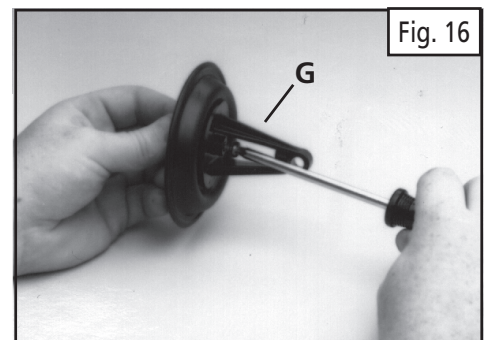
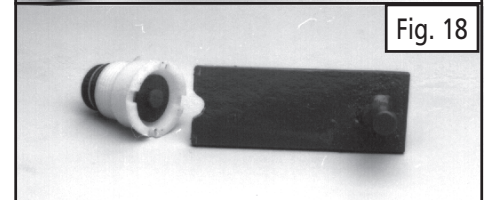
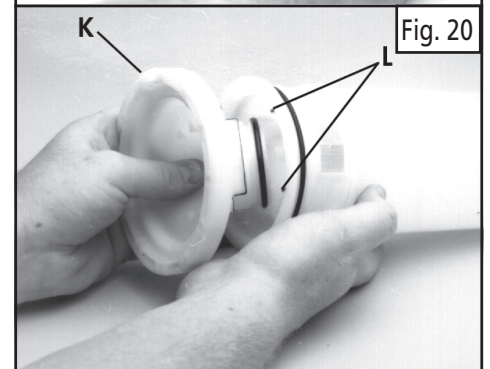

Fig. 16
Fig. 18
Fig. 20
- 5) To replace the diaphragm, remove the connecting rod (G) from the backing plate by removing the retaining screw. Replace the diaphragm and reassemble. (See Figure 16)
- 6) The valve assembly (H) is removed using a locally produced special tool (See drawing for measurements). The valve unscrews counter-clockwise.
- 7) Once the valve assembly is removed, the valve plates and o-rings can be replaced. (See Figure 18).
- 8) The pump housing (L) is separated from the pressure cylinder (J) by pulling it off. The o-ring can then be replaced.
- 9) When reassembling the pump housing to the pressure cylinder, be sure the square tab on the pump housing (K) is aligned in the notch - (see arrows (L)) on the pump cylinder. (See Figure 20). Be careful not to pinch or nick the o-ring.
- 10) Screw the valve assembly into the cylinder. Be sure that the two (2) square holes the threaded portion of the valve assembly are aligned with the holes in the pressure cylinder. Look through the inlet screen to check alignment.
- 11) Re-install the diaphragm and the flange with the twelve (12) screws. Push assembly into tank. Tighten the large clamp and re-install other parts.